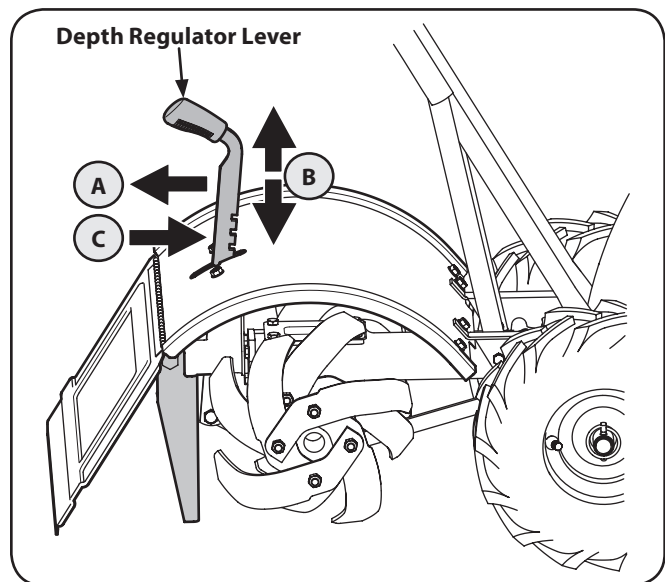

Figure 5-1
To adjust the depth stake, pull back on the depth adjustment bracket (A) and push up or down (B) until the bracket reaches the desired position and then release the bracket (C). See Fig. 5-1.